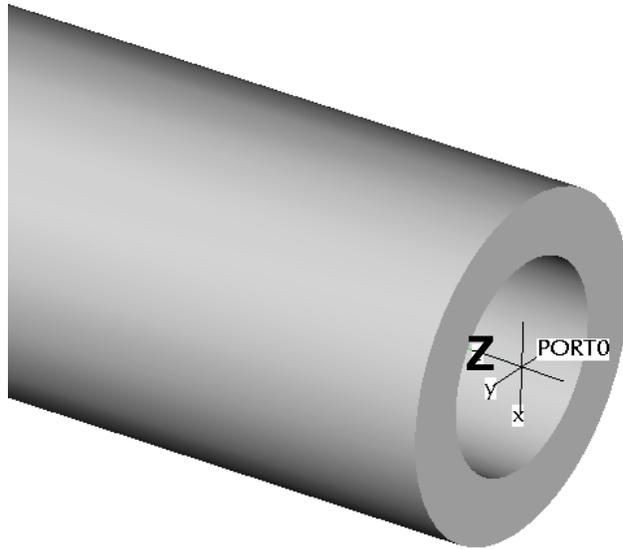

FIGURE 19: SAMPLE HOSE FLOWING INTO PORT AND Z-AXIS DIRECTION
- Ports should always have the Z-axis orientated in the direction of pipe flow; *see Figure 19.*